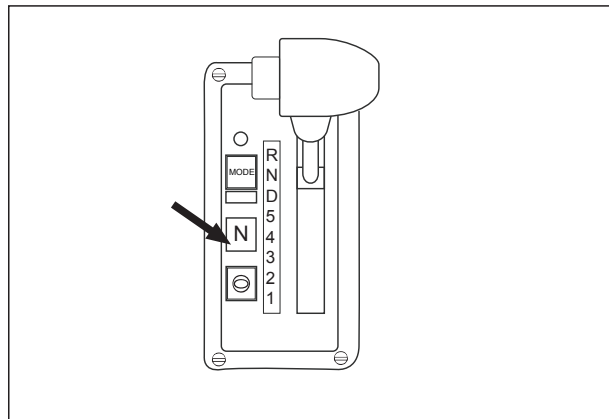

Fig 4.24
2. Make sure the transmission is in 'NEUTRAL'.(see Fig 4-24).